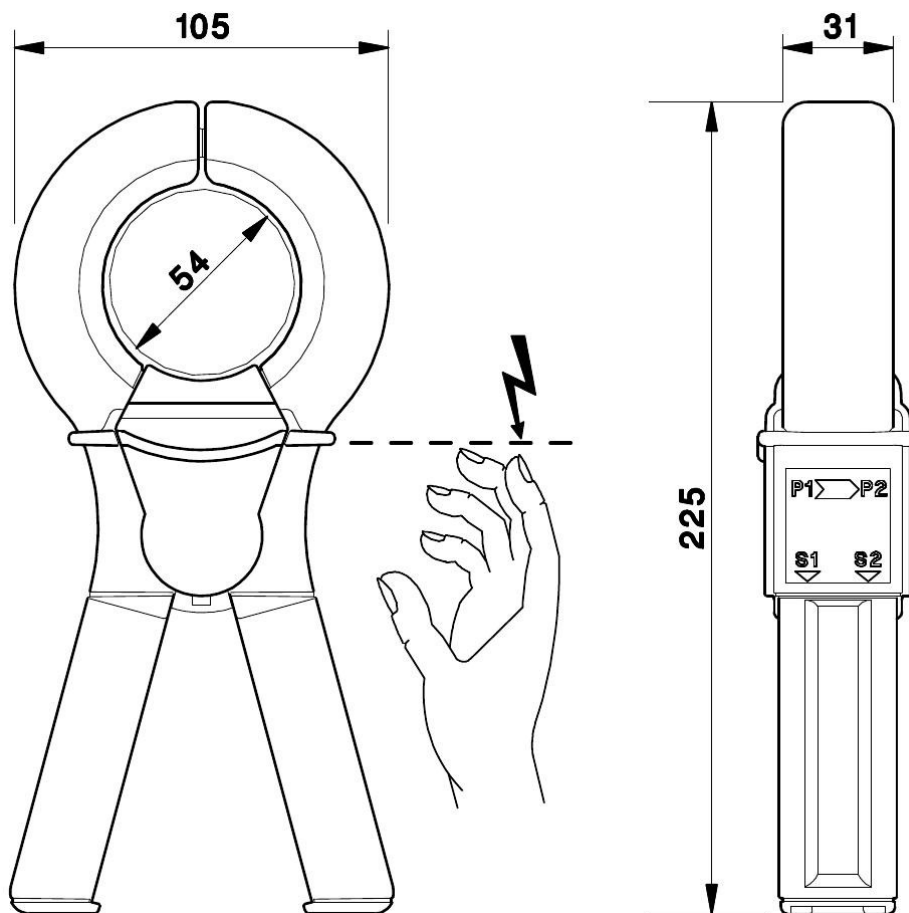

Figure 2.80: Dimensions in mm and protection against electric shock
- For protection against electric shock please refer to Figure 2.80 [→91]